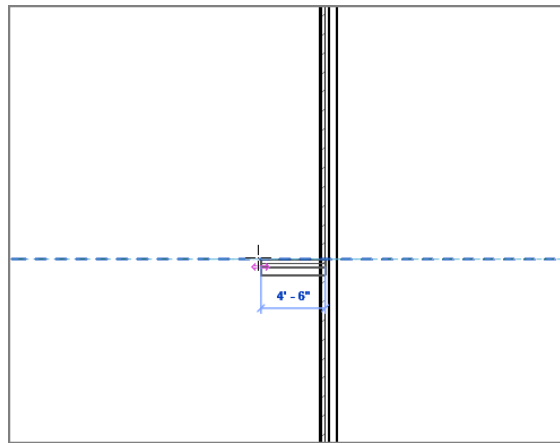

FIGURE 2.6: Drawing a single wall from a defined starting point
5. Start drawing your new wall from the intersection of the west wall (the one on the left) and the upper reference plane, as shown in Figure 2.6. Make sure you're using the face of the wall and not the ledge below. The enlargement in Figure 2.6 can help you. (Metric users, you do not have a ledge below.)